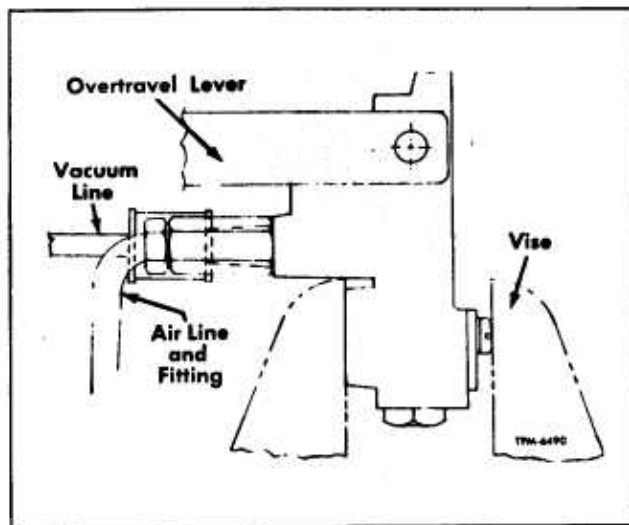

Figure 36-Valve Positioned for Time Delay Check
3. Place valve assembly vertically in holding vise (figure 36).